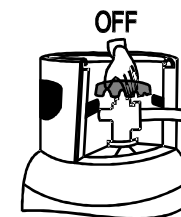

Fig.5
7. Turn off valve of gas cylinder after cooking. (Fig 5)